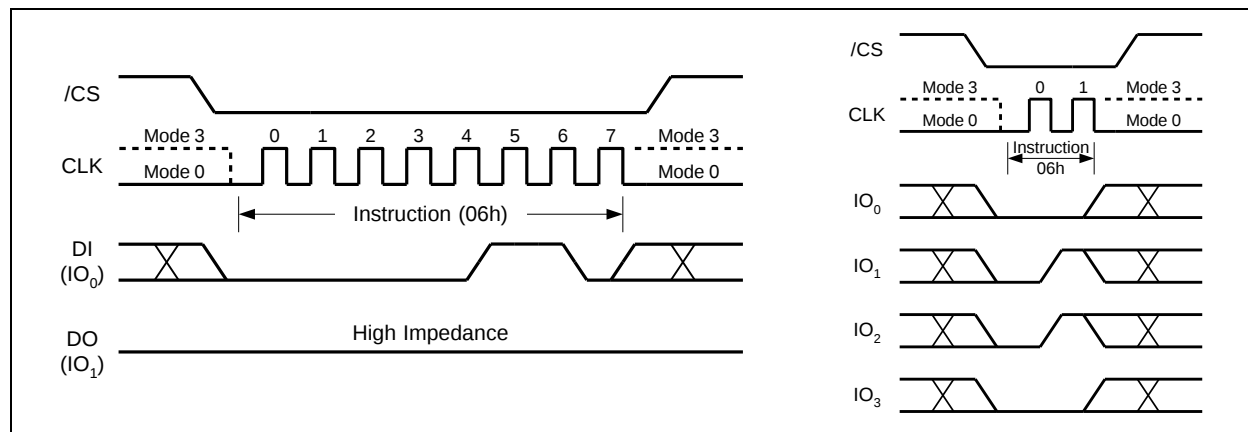

Figure 5. Write Enable Instruction for SPI Mode (left) or QPI Mode (right)
The Write Enable instruction (Figure 5) sets the Write Enable Latch (WEL) bit in the Status Register to a 1. The WEL bit must be set prior to every Page Program, Quad Page Program, Sector Erase, Block Erase, Chip Erase, Write Status Register and Erase/Program Security Registers instruction. The Write Enable instruction is entered by driving $\overline{\text{CS}}$ low, shifting the instruction code "06h" into the Data Input (DI) pin on the rising edge of CLK, and then driving $\overline{\text{CS}}$ high.